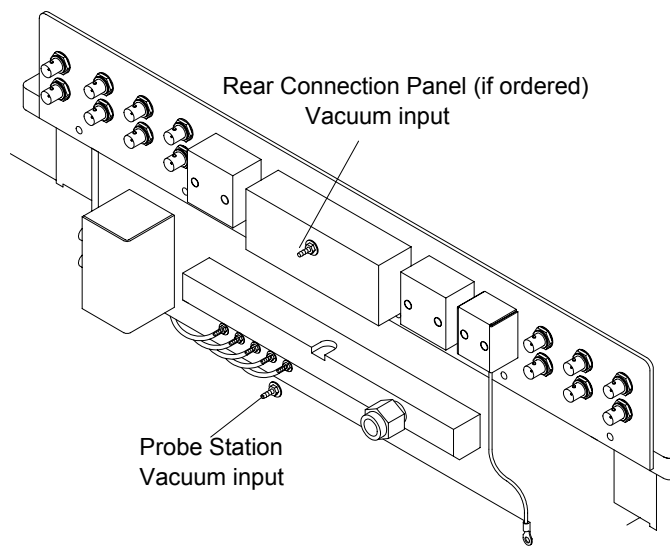

Fig. 29. Vacuum hose connection.
3. Connect the “keyed” cables and hoses as described in Table 1. *See also, figure 29 on p. 41.*
1. Connect a 1/8-inch diameter hose to the vacuum input on the back of the probe station. *See* figure 29 on p. 41.
3. Connect a 1/8-inch diameter hose to the vacuum input on the back of the rear connection panel (if ordered). *See* figure 29 on p. 41.